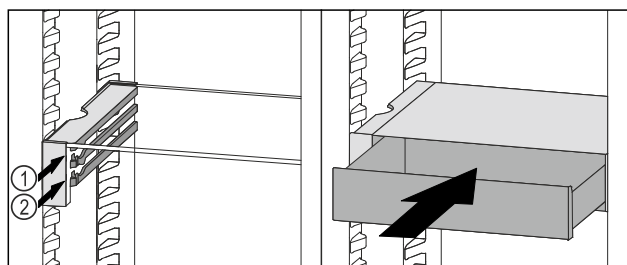

Fig. 142
- Place the VarioSafe drawer behind the stoppers on desired rib Fig. 142 (1) or Fig. 142 (2).